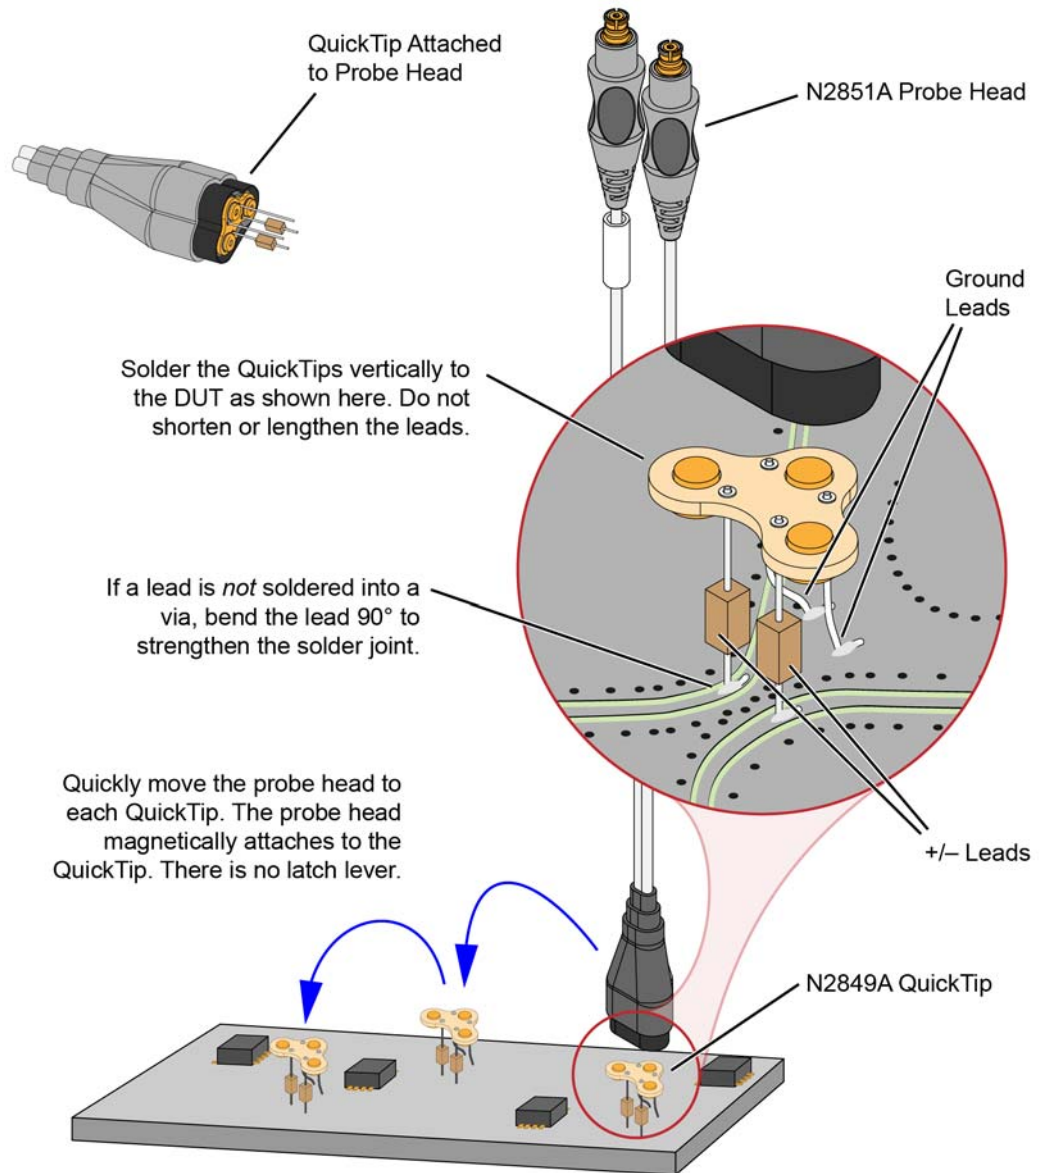

Figure 28 Probing with the N2851A Probe Head and N2849A QuickTip
Permanently solder any number of QuickTips to your DUT as shown in **Figure 28** on page 50. Because the probe head is magnetically connected (instead of mechanically connected) to the QuickTip, you can effortlessly connect and disconnect to each QuickTip. For best performance, position the QuickTip vertically on the DUT. The N2849A QuickTip has two signal leads and two ground leads. The ground leads have minimal effect on your differential measurements. However, if you are making only differential measurements you can optionally cut off the ground leads or fold them out of the way. Be aware that without the ground leads, the mechanical stability of the QuickTip will be reduced and you will need to stabilize the probe head.
- Orient the QuickTip vertically as shown in **Figure 28** on page 50.